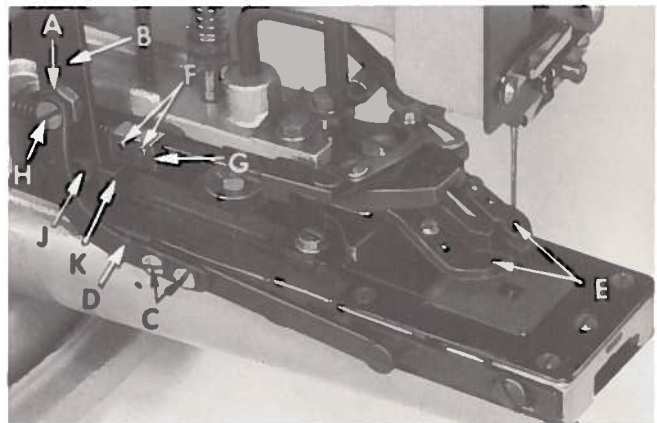
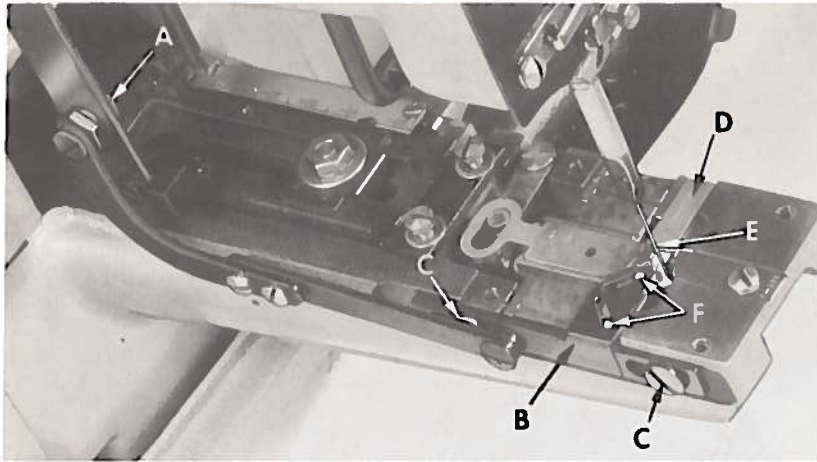

Fig. 18
Fig. 19
The knives should be set to cut the back thread of the triangle after the setting of the last stitch before "Stop Position". This can be accomplished by loosening nut (A, Fig. 18) which will permit upward or downward repositioning of the adjusting stud (A, Fig. 19) in the knife drive lever (B, Fig. 18) or loosen screws (C) which will permit forward or rearward repositioning of the knife drive link arm (D). When satisfactory conditions have been obtained, tighten screws (C) and nut (A) securely.
NOTE: While making this adjustment, care must be taken to assure that the cutting knife lever (B, Fig. 19) does not strike the shoulder of its mounting screws (C), at either end of the slots while opening or closing of the knives. During the sewing cycle, the upper knife (D) should be retracted to provide maximum clearance from the needle (E) as is possible without the knife drive pins (F) striking the ends of the diagonal slots in the drive lever (B).
The button clamp opener should be set to start opening the button clamp jaws (E, Fig. 18) just before the clamp begins to lift. Adjustment can be made by loosening screws (F) and moving the front tripping block (G). Mov-
NOTE: To disengage button clamp opener, merely reposition tripping blocks (G and K, Fig. 18) so they do not come in contact.